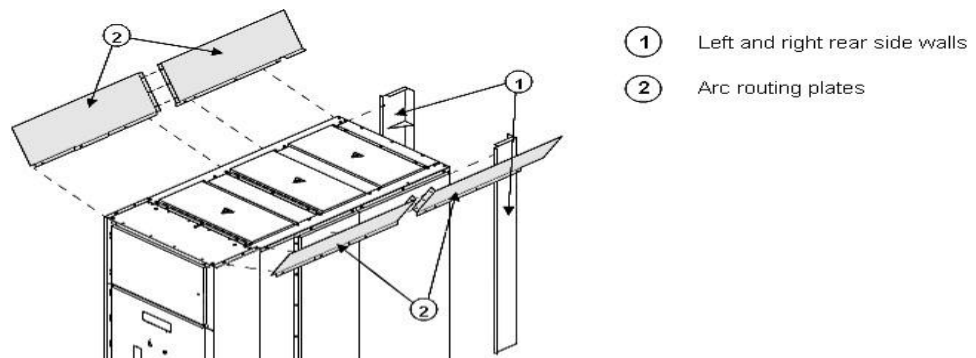
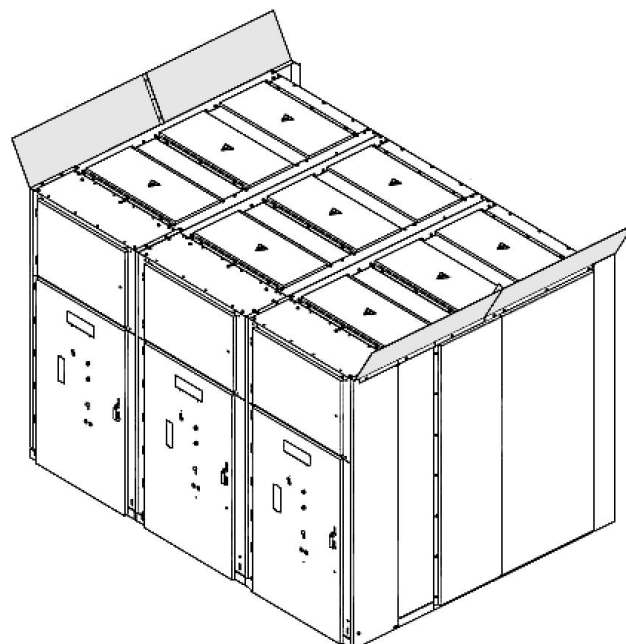

Fig38. Assembly of arc routing plates
Fig39. Final assembly of the arc routing plates at the wall standing switchgear version
Arc routing plates (pos.nr. ② in fig38) are mounted to side holes at the top of the switchgear as shown in fig38 and fig39. Left and right rear side walls (pos.nr. ① in fig38) are used to prevent any hot gas damage on people in the switchgear room.